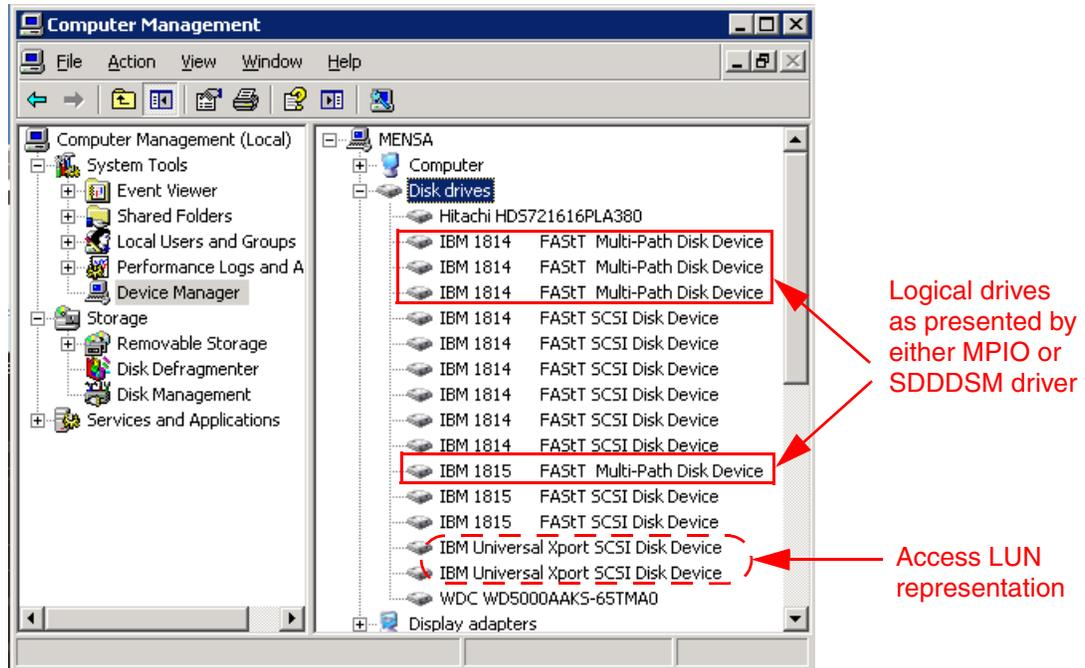

Figure 6-35 Device representation either using MPIO or SDDDSM
Since both drivers supported (SM failover driver or SDDDSM) are based on the Microsoft MPIO architecture, but with different DCM modules, the device representation under the Device Manager is the same whether you have installed the MPIO driver or the SDDDSM driver. See Figure 6-35.
In the example presented in Figure 6-35, two DS4000 are configured:
- ▶ IBM xxx Multipath Disk Device: Representation of each logical drive mapped. In the example in Figure 6-35, we have a total of 4.